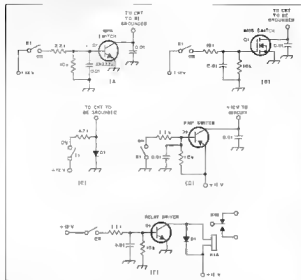

Fig. 4 — Various semiconductor switches (see text).
Our workshop project this month is shown schematically in Fig. 4. It is patterned along the lines of a broadband amplifier designed by Hayward, W7ZOL. His design did not use transformers and there was no high-level stage at the tail end of the amplifier strip, but the feedback networks are similar to his. The particulars of the general design are given in the text of *Solid State Design for the Radio Amateur*, referenced earlier in this article.
Due to the linearity and bandwidth of the circuit in Fig. 4, it is ideal as a drop-in
Fig. 4 — A practical circuit for a broadband linear amplifier. This can be used as an instrument amplifier, a low-level RF strip in a transmitter or as part of a receiving loop preamplifier. Resistors are 1/4-W carbon-composition unless otherwise noted. The polarized capacitor is tantalum or electrolytic. All others are chip-style or disc-ceramic with short leads. T1 and T2 contain 15 primary turns of no. 28 enameled wire on an Amidon FT37-43 toroid core. The secondary windings consist of seven turns of no. 28 enameled wire. T3 uses an Amidon FT56-43 toroid core with 12 primary turns of no. 28 enameled wire. The secondary of T3 contains six turns of no. 28 wire.
Fig. 5 — Circuit-board etching pattern for the broadband amplifier of Fig. 4. The pattern is shown left side from the top side of the board. Black areas represent milled copper fill.
This amplifier can be used also as a preamplifier for loop antennas. A step attenuator can be inserted at the output of the amplifier to control the gain. If you choose to use this circuit in such a manner, a low-noise preamplifier should precede Q1 of Fig. 4. I find that a JFET stage is suitable for this purpose. Owing to the small signal that a receiving loop provides, the preamplifier (even at 1.8 MHz) must be a low-noise type. If not, you will enjoy listening to "pop-corn" noise along with the DX signals! Q1 does not have a low enough noise figure for satisfactory weak-signal reception.
A broadband amplifier can be built for Class A, B or C service just as narrow-band amplifiers can. The advantage of broadband designs is, in retrospect, to obtain a wide frequency response with relatively flat gain. This helps us to design circuits that do not require band-switching provisions. In other words, it simplifies the design of a multiband transmitter. But, as an instrumentation amplifier, the circuit of Fig. 4 has a great many advantages around the workshop. Good luck with your project.
Fig. 4 contains a number of examples that show how we may use various semiconductor devices as shunt switches. S1 in each case represents a mechanical switch or CW key that turns on the electronic switch. As we learned earlier, turn-on can be effected also by other electronic switches in the overall circuit. For example, AGC voltage or rectified speech energy could be used to activate a semiconductor switch, depending on the application for the switch; the possibilities are virtually without limit.
Circuit A of Fig. 4 is an NPN transistor switch. A positive voltage is required at the base of Q1 in order to turn it on. The 10-kΩ resistor from the base to ground is used to minimize transistor leakage current when the switch is in the off mode. This circuit might be used to key a driver stage in a solid-state CW transmitter. If so, the collector of Q1 would be hooked to the emitter of the keyed stage. S1 would be the CW key, or the keying line from a keyer.
A simple diode switch is shown at C of Fig. 4. To the right is a PNP transistor switch (D). The base must be grounded through the 2.2-kΩ resistor to cause turn-on. A 10-kΩ resistor is connected from base to the +12-V line to help cut off the transistor in the off mode. This resistor can be eliminated in the circuit of Fig. 4A, 4D and 4E if two 1N914 diodes are connected in series with the emitter leads. The diode junctions will reverse bias the transistor by approximately 1.4 V. The resistor or biasing diodes are especially important in the circuit of Fig. 4E — a relay driver. Without reverse bias, the relay may remain energized after the transistor is turned off. This is because a small amount of leakage or idling current will remain, and it may